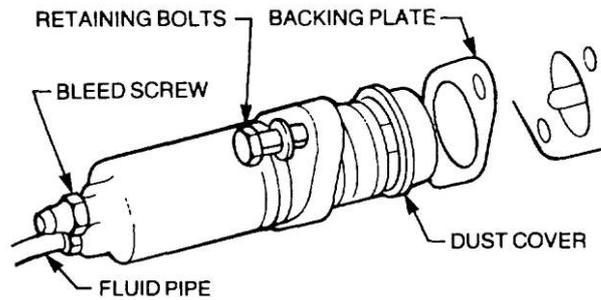

Figure 10 Removal of the Slave Cylinder
- x. Remove the bolts securing the clutch slave cylinder to the transmission bell housing and the nut and bolt securing the hydraulic pipe bracket to the firewall. Remove the slave cylinder complete with dust cover and backing plate (Figure 10).